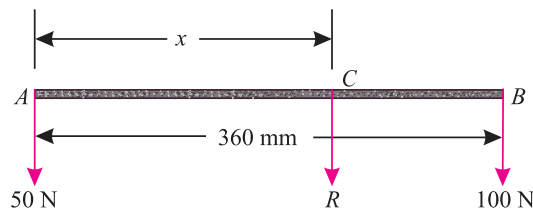

Fig. 4.2.
**Solution.** Given : The system of given forces is shown in Fig. 4.2